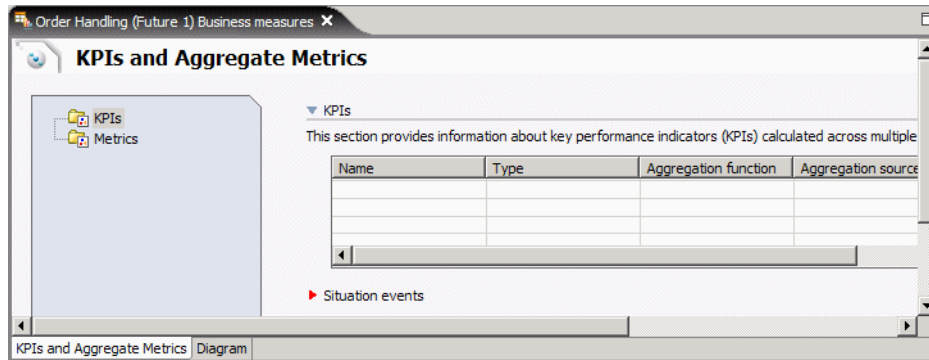

Figure 8-8 Business measures: KPIs and Aggregate Metrics
- ▶ The Business Measures editor opens on the KPIs and Aggregate Metrics tab (Figure 8-8).